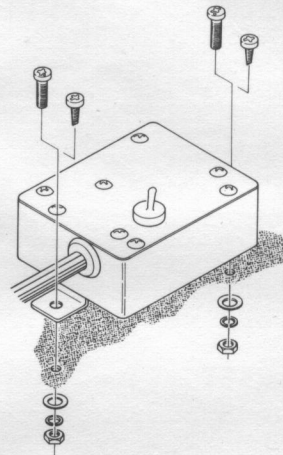

Figure 6.
- (1) Refer to Figure 6, and mount the FHR-1 box in the desired location. The unit is not waterproof, so a position not exposed to moisture is to be preferred.